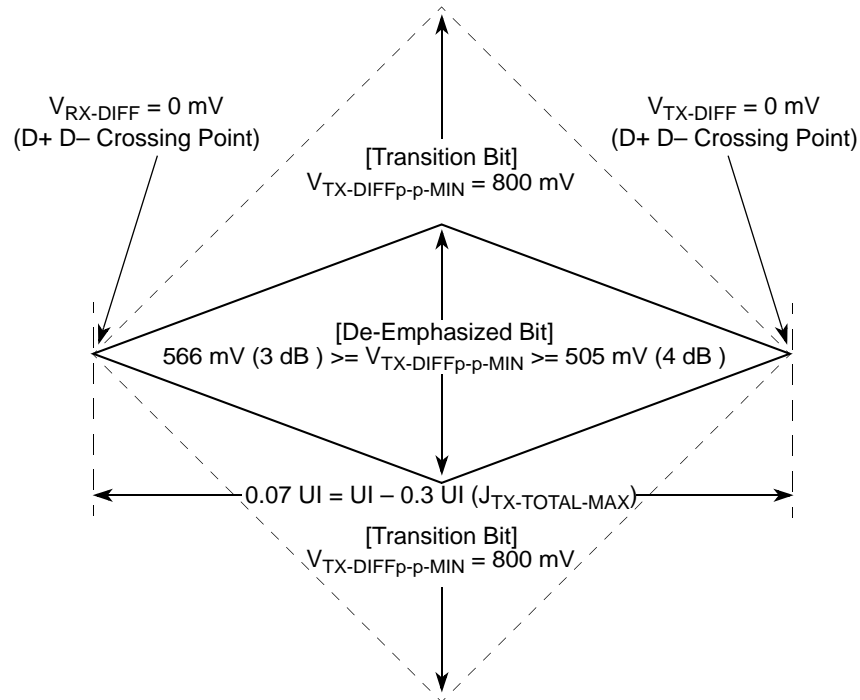
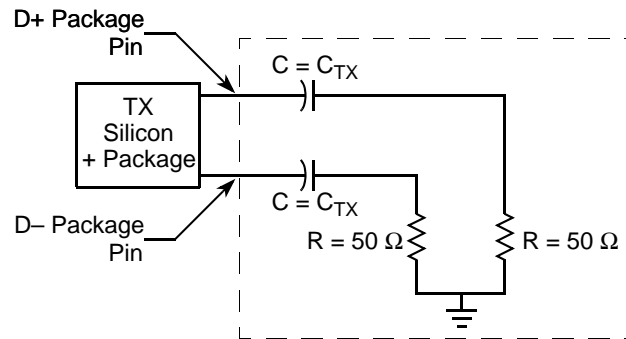

Figure 55. Minimum Transmitter Timing and Voltage Output Compliance Specifications
Figure 57. Compliance Test/Measurement Load
2. Specified at the measurement point into a timing and voltage compliance test load as shown in Figure 57 and measured over any 250 consecutive TX UIs. (Also refer to the transmitter compliance eye diagram shown in Figure 55.)
4. The Transmitter input impedance shall result in a differential return loss greater than or equal to 12 dB and a common mode return loss greater than or equal to 6 dB over a frequency range of 50 MHz to 1.25 GHz. This input impedance requirement applies to all valid input levels. The reference impedance for return loss measurements is 50 ohms to ground for both the D+ and D- line (that is, as measured by a Vector Network Analyzer with 50 ohm probes—see Figure 57). Note that the series capacitors  $C_{\text{TX}}$  is optional for the return loss measurement.
5. Measured between 20-80% at transmitter package pins into a test load as shown in Figure 57 for both  $V_{\text{TX-D+}}$  and  $V_{\text{TX-D-}}$ .
The TX eye diagram in Figure 55 is specified using the passive compliance/test measurement load (see Figure 57) in place of any real PCI Express interconnect + RX component.
- Specified at the measurement point and measured over any 250 consecutive UIs. The test load in Figure 57 should be used as the RX device when taking measurements (also refer to the Receiver compliance eye diagram shown in Figure 56). If the clocks to the RX and TX are not derived from the same reference clock, the TX UI recovered from 3500 consecutive UI must be used as a reference for the eye diagram.
- The Receiver input impedance shall result in a differential return loss greater than or equal to 15 dB with the D+ line biased to 300 mV and the D- line biased to -300 mV and a common mode return loss greater than or equal to 6 dB (no bias required) over a frequency range of 50 MHz to 1.25 GHz. This input impedance requirement applies to all valid input levels. The reference impedance for return loss measurements for is 50 ohms to ground for both the D+ and D- line (that is, as measured by a Vector Network Analyzer with 50 ohm probes - see Figure 57). Note: that the series capacitors CTX is optional for the return loss measurement.
The RX eye diagram in Figure 56 is specified using the passive compliance/test measurement load (see Figure 57) in place of any real PCI Express RX component.
Note: In general, the minimum Receiver eye diagram measured with the compliance/test measurement load (see Figure 57) is larger than the minimum Receiver eye diagram measured over a range of systems at the input Receiver of any real PCI Express component. The degraded eye diagram at the input Receiver is due to traces internal to the package as well as silicon parasitic characteristics which cause the real PCI Express component to vary in impedance from the compliance/test measurement load. The input Receiver eye diagram is implementation specific and is not specified. RX component designer should provide additional margin to adequately compensate for the degraded minimum Receiver eye diagram (shown in Figure 56) expected at the input Receiver based on some adequate combination of system simulations and the Return Loss measured looking into the RX package and silicon. The RX eye diagram must be aligned in time using the jitter median to locate the center of the eye diagram.
The reference impedance for return loss measurements is 50. to ground for both the D+ and D- line (that is, as measured by a Vector Network Analyzer with 50. probes—see Figure 57). Note that the series capacitors, CTX, are optional for the return loss measurement.
The AC timing and voltage parameters must be verified at the measurement point, as specified within 0.2 inches of the package pins, into a test/measurement load shown in Figure 57.